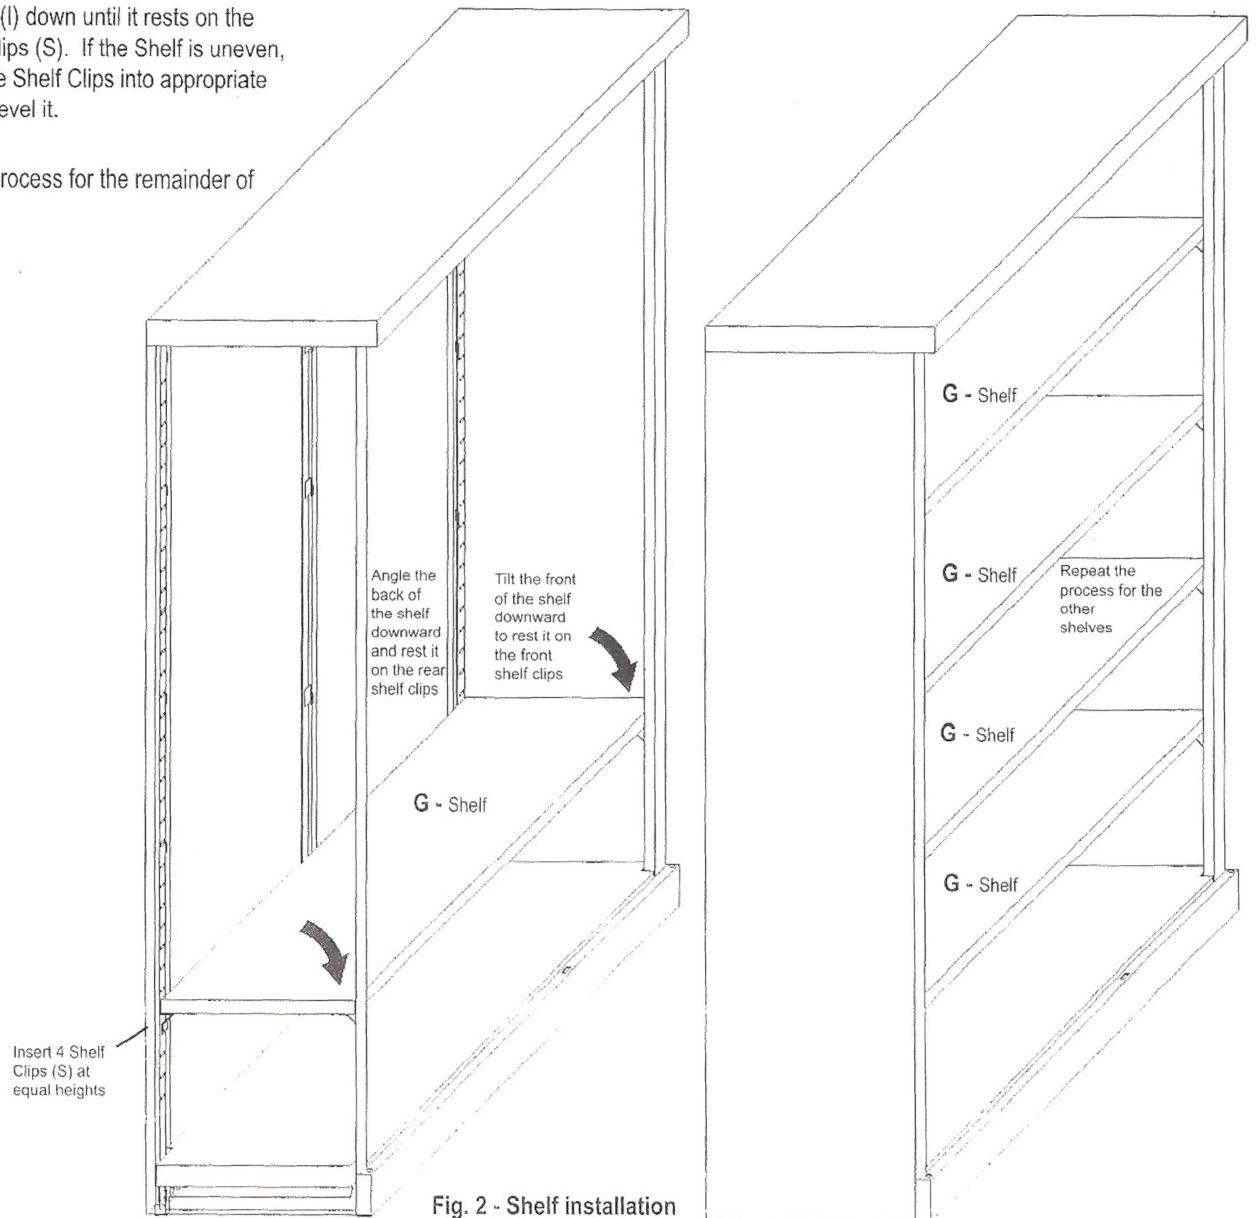

Fig. 2 - Shelf installation
- B) Angle a Shelf (G) into the cabinet above the installed Clips with its rear tilted down.
- C) Set the rear of the Shelf (I) onto the Shelf Clips (S) placed in the Back Panels. See Fig. 2.
- D) Tilt the Shelf (I) down until it rests on the front Shelf Clips (S). If the Shelf is uneven, reposition the Shelf Clips into appropriate locations to level it.